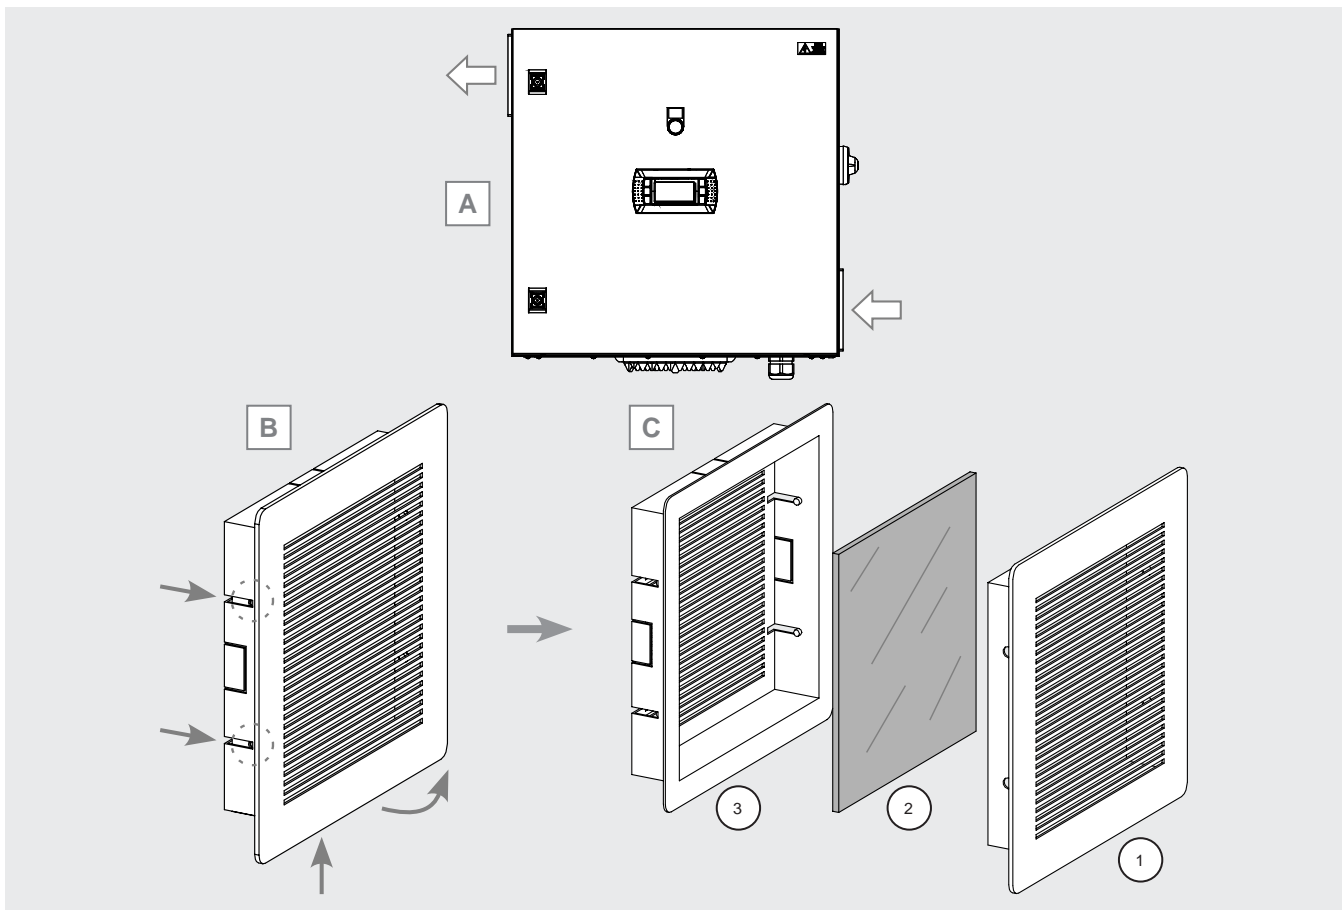

Figure 39
- locate the installation location of the air grilles. The location depends on the type of switchboard installed. Check the documentation provided with the switchboard. As an example, the air inlet grille is on the lower right side, the air outlet grille is on the upper left side. See Figure 39 A.
- insert the tip of a slotted screwdriver into the notch in the lower profile of the grille (1) and lift gently. Be careful not to damage the seals. If necessary, gently pry up the side notches that secure the grille to the holder (3). See Figure 39 B and C.
- remove the grille (1) being careful not to drop the filters (2) located on the back. The filters may be different depending on the type of installation. Check the condition of the filters: replace them if necessary. See Figure 39 B and C.
- install the grille (1) and filter (2) again, taking care to secure (1) on the side notches of the holder (3). See Figure 39 B.